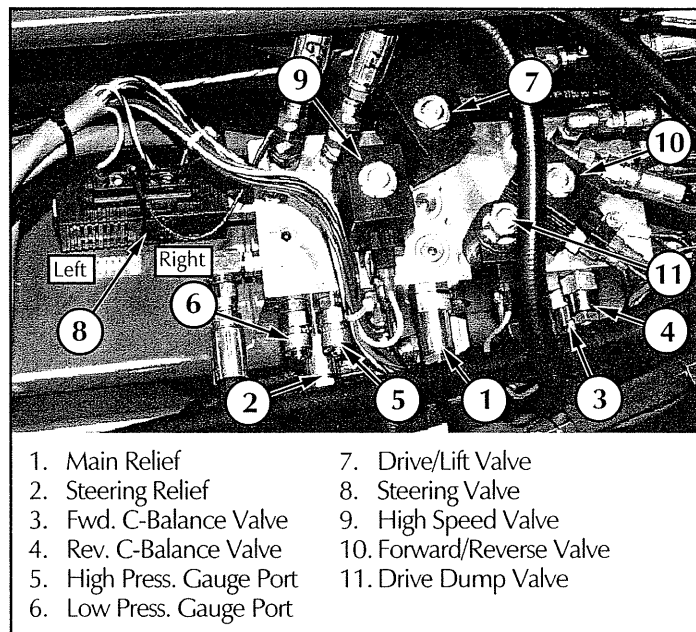

Figure 4-4: Hydraulic Manifold
4.5 Setting Hydraulic Pressures (Figure 4-4)
MAIN RELIEF VALVE (Figure 4-4)
COUNTERBALANCE VALVES (Figure 4-4)